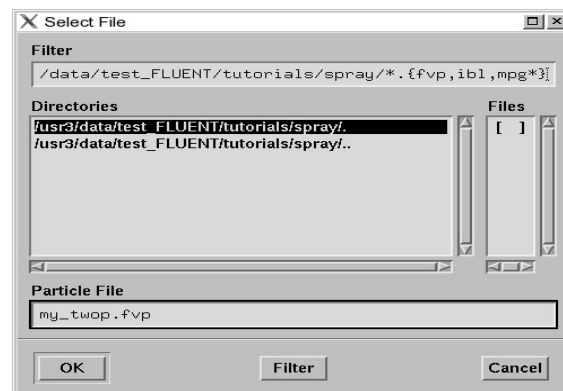

Figure 57 Save File Panel
4. Enter a file name with the `fvp` extension (**Figure 57**), choose OK and close the Export Particle Data panel.